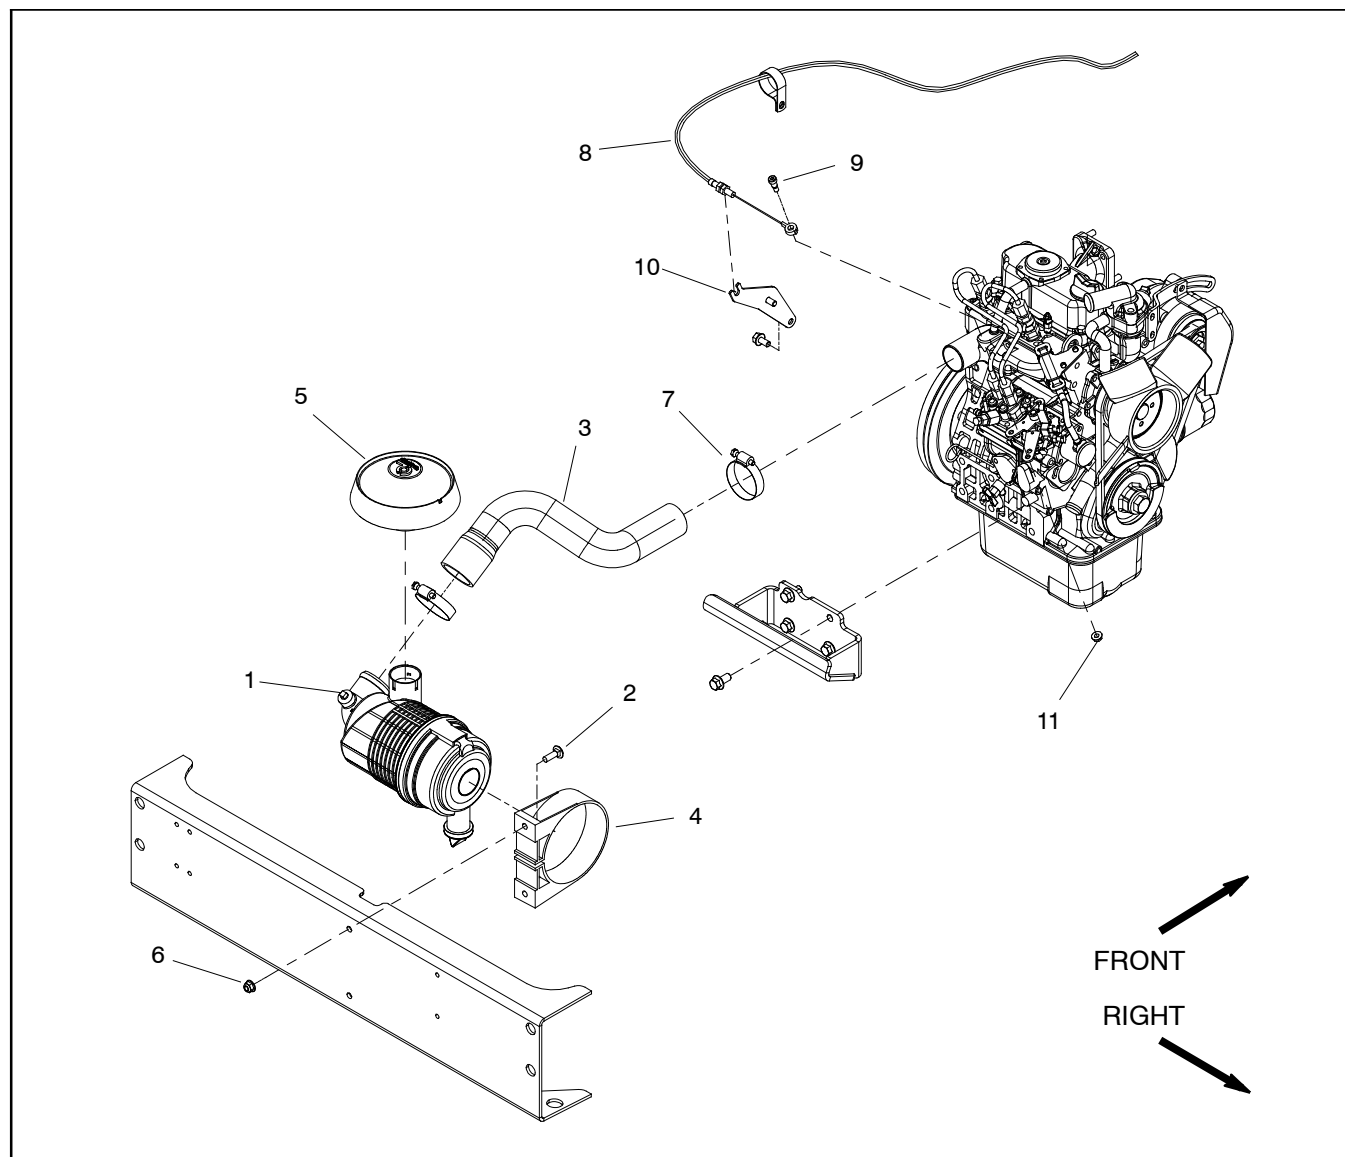

Figure 3
Air Cleaner Removal (Fig. 3)
3. Remove air cleaner components as needed using Figure 3 as a guide.
4. Check air cleaner hose (item 3 in Fig. 3) for damage or wear. Replace hose if damage is found.
Air Cleaner Installation (Fig. 3)
1. Assemble air cleaner system using Figures 3 and 4 as guides.